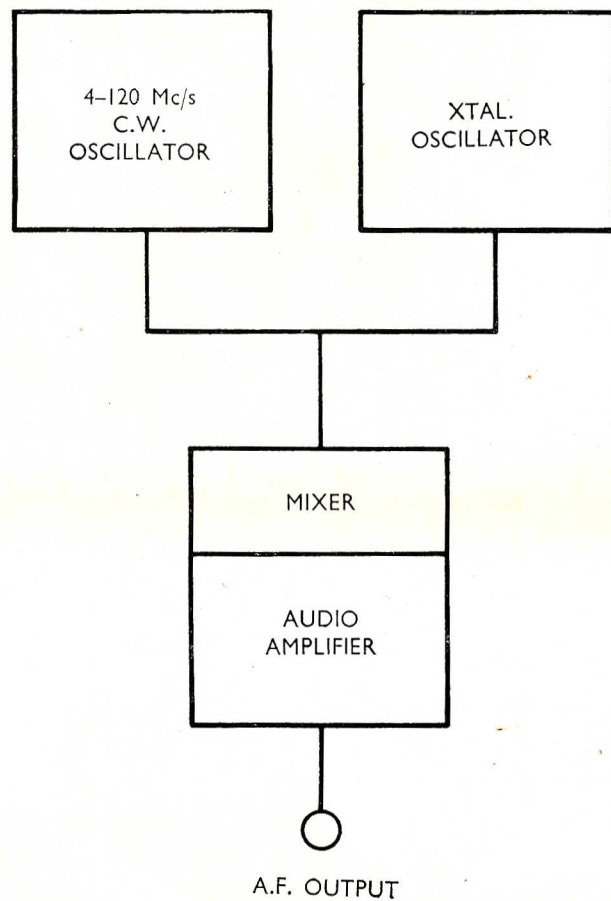

Fig. 5. Crystal Calibration
6.8 Crystal verification (Fig. 5)